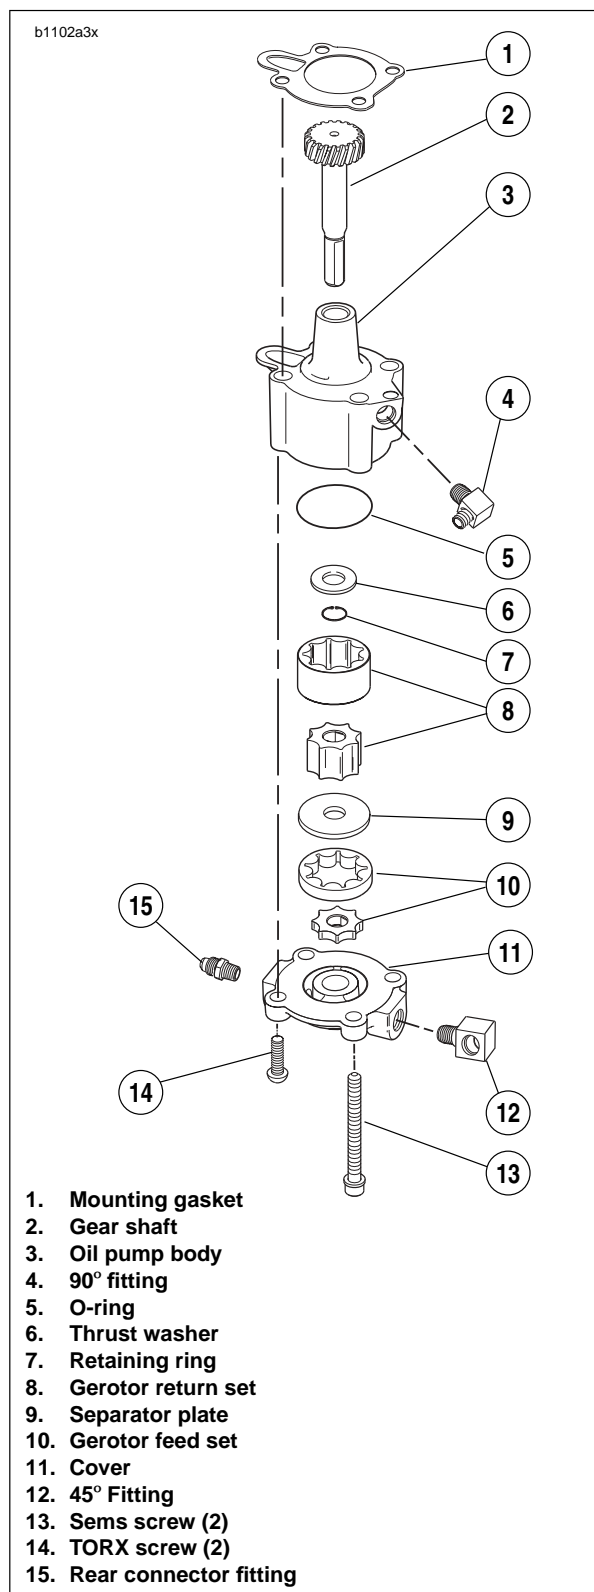
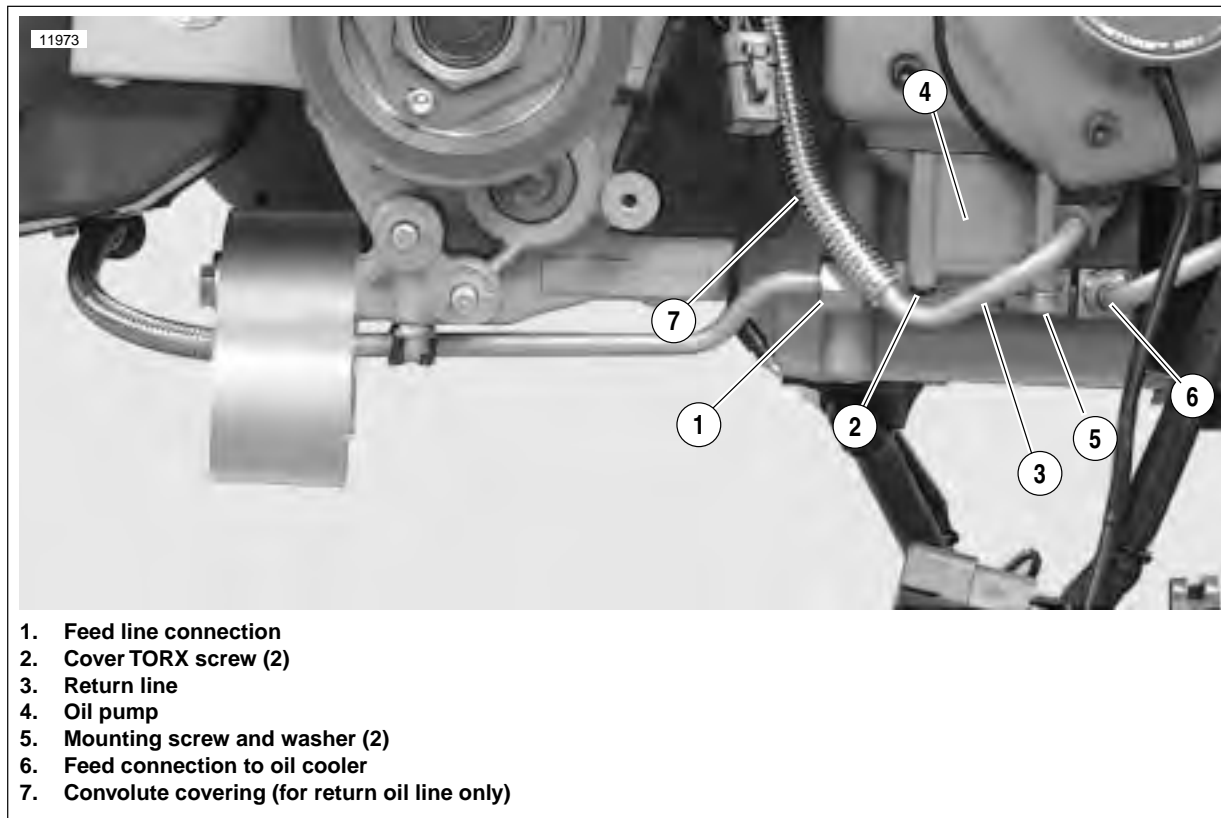

Figure 3-118. Oil Pump
Figure 3-119. Oil Pump Hardware
See Figure 3-118. The oil pump consists of two gerotor gear sets, feed and return, housed in one pump body. The feed set distributes oil to the engine, the scavenge set returns oil to the tank/swingarm reservoir.
4. See Figure 3-119. Disconnect feed line connections (1, 6) on both sides of the oil pump.
5. Detach return line connection (3).
6. Carefully remove mounting screws (5) and washers only. Pump will drop with screws removed. Discard mounting gasket.
7. Remove cover TORX screws (2). Lift cover off body.
3. See Figure 3-118. Check gear shaft teeth for damage or wear. Replace if necessary.
1. See Figure 3-118. Install gear shaft through body. Position thrust washer over end of shaft. Install **new** retaining ring into groove in shaft.
6. See Figure 3-118. Place gerotor feed set over gear shaft.
7. Place cover (11) onto pump body (3). Install cover TORX screws(14). Tighten to 70-80 **in-lbs** (8-9 Nm).
8. Place **new** mounting gasket (1) in position.
9. Secure pump to crankcase with mounting screws (13). Tighten to 125-150 **in-lbs** (14-17 Nm).
10. See Figure 3-119. Attach return line connection (3) and tighten to 22-24 **ft-lbs** (29.8-32.5 Nm).
12. Tighten feed line connection (1) to 27-29 **ft-lbs** (36.6-39.3 Nm).
13. Tighten feed line connection (6) to 22-24 **ft-lbs** (29.8-32.5 Nm).